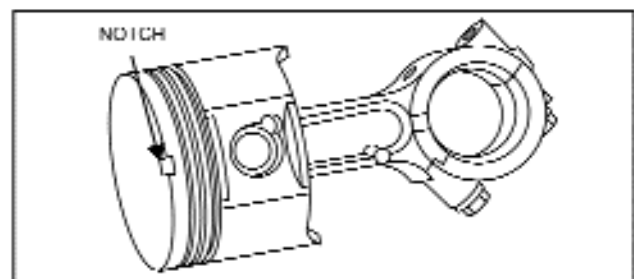

Figure 116 - Assemble Piston and Connecting Rod
4. Determine correct position of connecting rod relative to notch or arrow on piston. See Figure 116.
3. Install piston with notch or arrow toward flywheel side of engine, Figure 116, taking care not to damage crankpin journal or connecting rod journal, when installing.